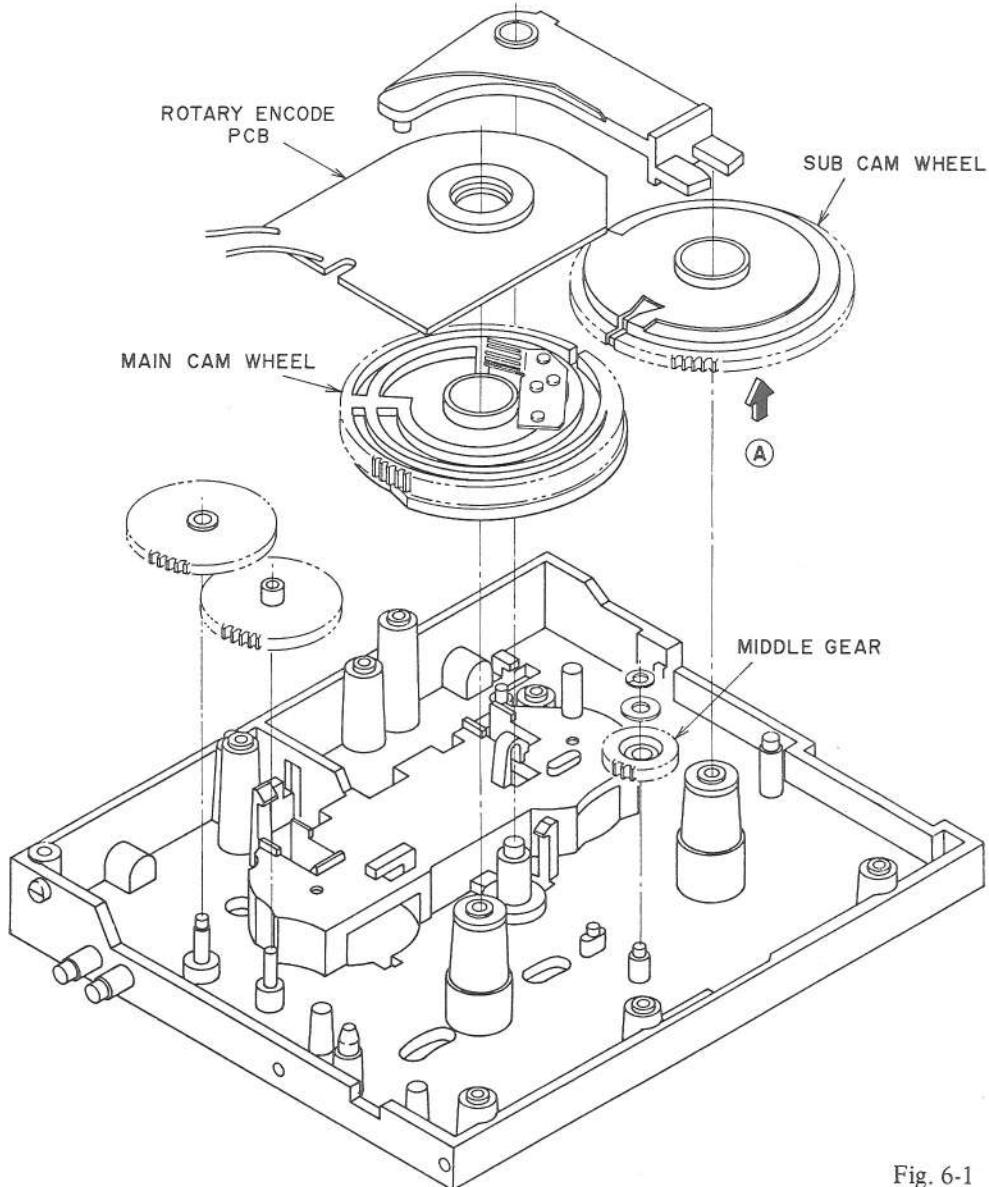
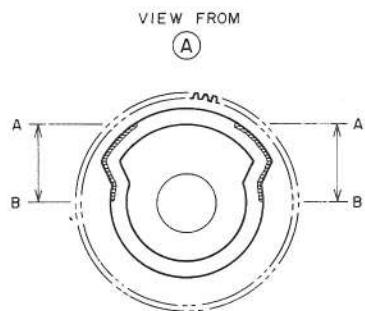
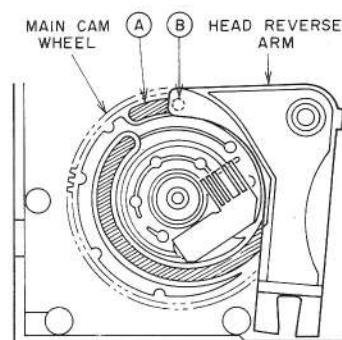

Fig. 6-1
Fig. 6-2
Fig. 6-4
- 1) Lock at SUB CAM WHEEL from direction ① (Fig. 6-1) and apply grease to areas A to B (the side of the groove shaded with oblique lines) as in Fig. 6-2.
- 4) Insert the head Reverse arm pin ② (see Fig. 6-1) into groove ③ in MAIN CAM WHEEL as in Fig. 6-4.